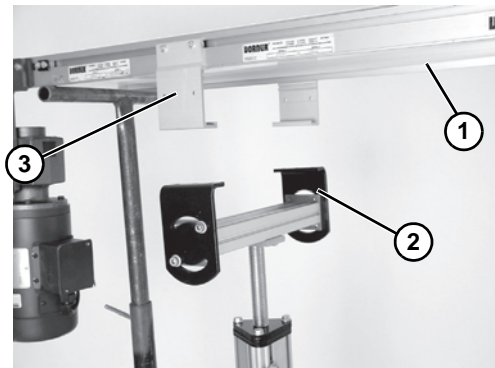

Figure 19
4. Raise the conveyor (Figure 19, item 1) from the conveyor mounting bracket (Figure 19, item 2) by adjusting the temporary stand (Figure 19, item 3) upward.